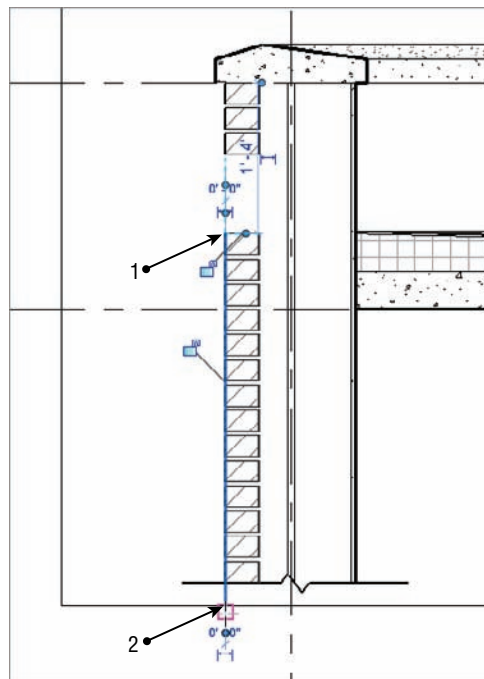

FIGURE 12.13 Picking two points
2. Pick point 1, as shown in Figure 12.13.
4. Pull the cursor straight down and pick point 2 (see Figure 12.13). Make sure you pick the second point well past the break line, or the brick will stop short.